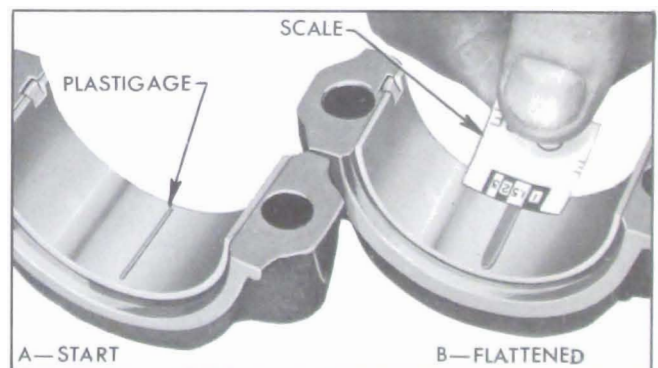

Figure 2-28—Checking Bearing Clearance
2. Place a piece of Plastigage lengthwise along the bottom center of the lower bearing shell (Figure 2-28, view A), then install cap
5. Using the scale printed on the Plastigage envelope, measure the flattened Plastigage at its widest point. The number within the graduation which most closely corresponds to the width of Plastigage indicates the bearing clearance in thousandths of an inch. See Figure 2-28, view B.